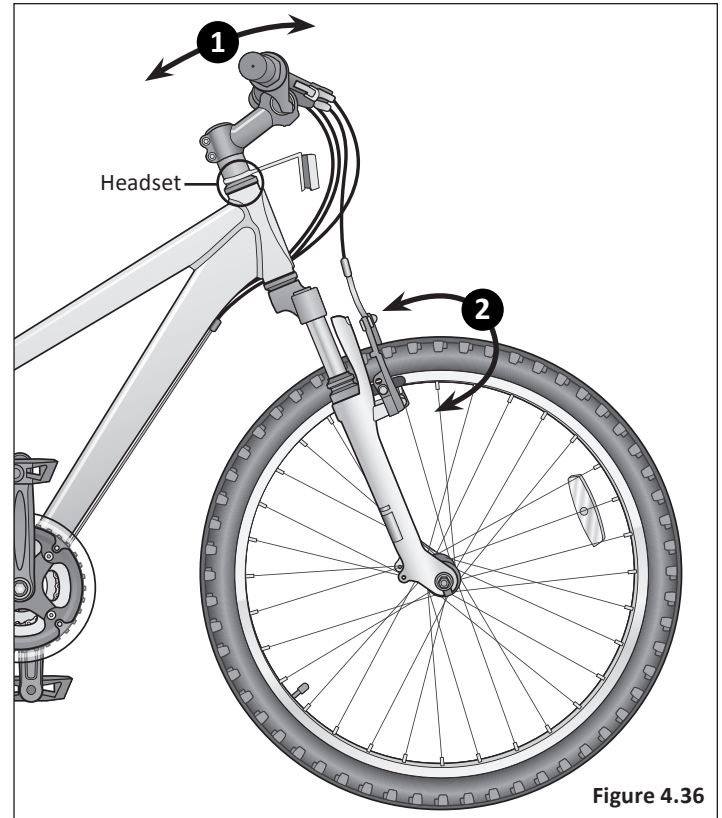

Figure 4.36
- ❶ **Shakiness:** Apply the front brake and push the handlebars back and forth, front to back or if the bicycle is on a workstand and the front wheel removed, push and pull on the forks. If you feel a knocking sensation or "clunk" it means the headset is too loose. **Important!** Use care with suspension forks, because the legs may have play in sliders. Grab upper portion of fork. **Figure 4.36**
- ❷ **Stiffness:** Lift the front of the frame so the front wheel is off the ground. The handlebar and wheel should flop to one side or another. If there is drag or binding the headset is too tight.